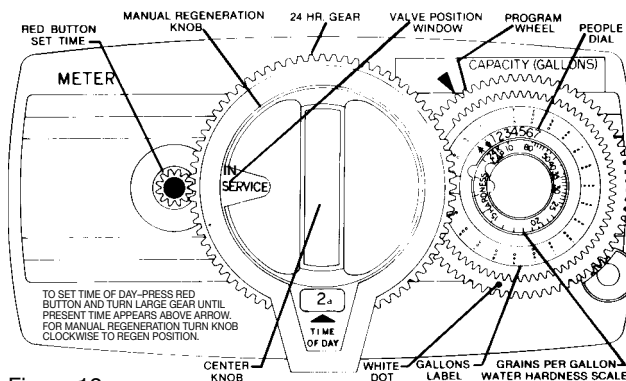

Figure 12
3A. WaterMate-1 Timer: Residential Applications - To set the program wheel, simply lift the "people dial" and rotate so that the number of people in the household is aligned with the grains per gallon on the water hardness scale (Figure 12). Release the dial and check for firm engagement at setting. Add three (3) grains of hardness per ppm of iron present. Example: 20 grains and 1 ppm of iron would be considered 23 grains hard (compensated hardness). Salt setting is preset at factory on all Demand Regeneration Timer units.